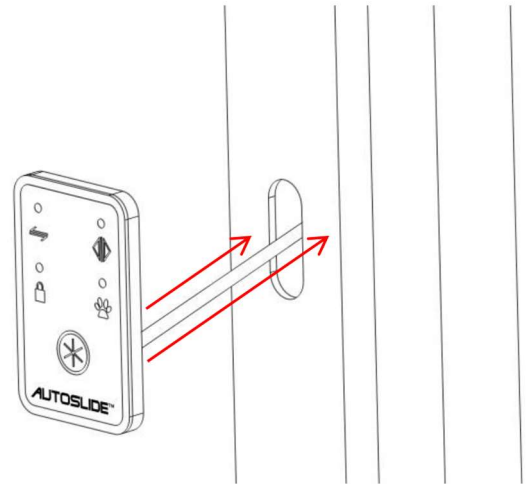

Figure 44: Remove the backing paper, connect the cable and press the sticky foam onto the door jamb.
6. Peel the backing paper from the other side of the double-sided foam. Connect the cable to the 7-pin connector (Figure 44), then firmly press the sticky side of the foam onto the door jamb (Figure 44).